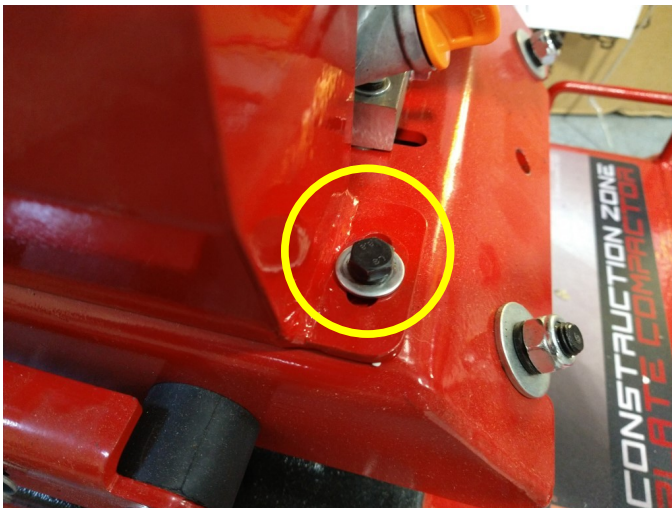

Fig. 1: Mounting bolt 1.
2. Use a 13mm socket and ratchet (or combination wrenches) to remove the mounting bolts on both sides of the belt cover (Figs. 1 & 2).